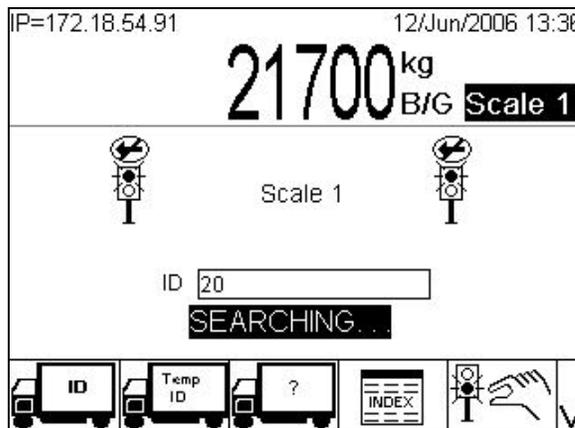
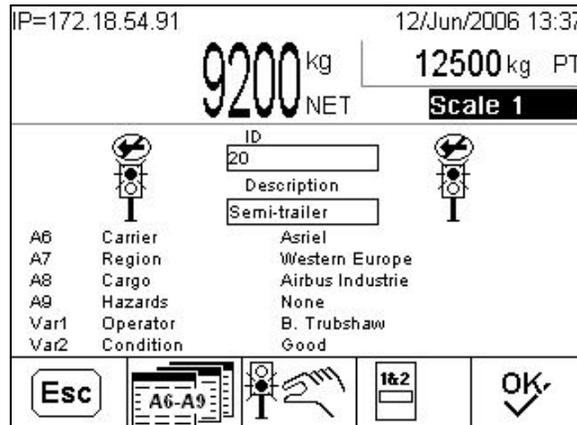

Figure 5-13: Searching for Index ID
Figure 5-16: Index Transaction Validation Screen
- If the Index ID is **known**, enter it and press ENTER. A “SEARCHING...” prompt displays briefly (Figure 5-13) before the validation screen (Figure 5-16) appears.
Press the OK softkey  again to display a validation screen like the one in Figure 5-16.